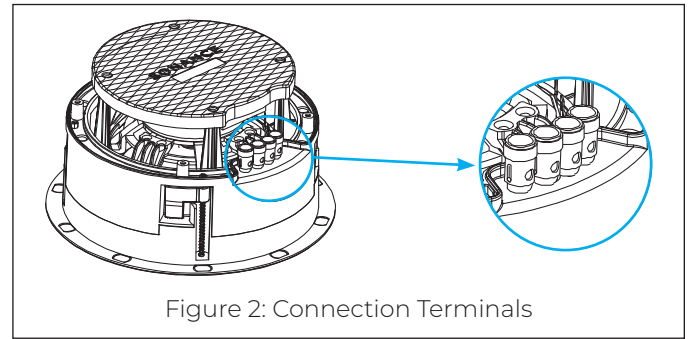

Figure 2: Connection Terminals
3. The speaker's connector posts are spring-loaded. Push the top of each connector post down to open the connector and insert the exposed wires into the holes in the posts (see Figure 2).